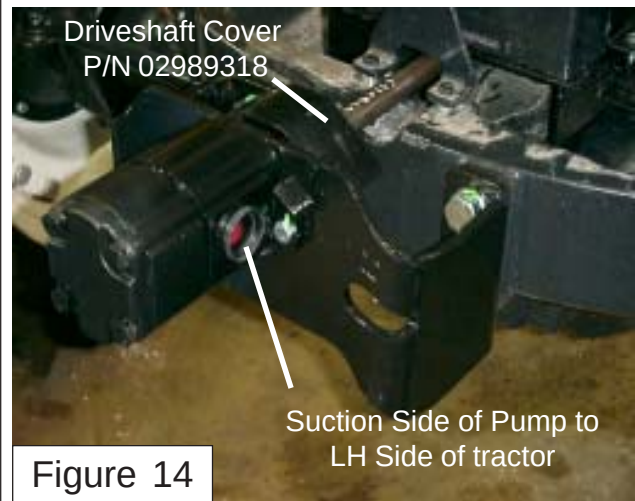

Figure 14
13. Install Pump Assembly. The pump assembly bolts to the machined pump mount. First coat the spline shaft of the pump with a anti-seize compound. Slide the pumps splined shaft into the spline coupler. The pump is retained with two bolts, P/N 00023100 (3/8" X 1-1/2"), two Locknuts P/N 00015800 (3/8") and 2 Lockwashers P/N 00012101 (3/8") (See Figure 14). These same bolts & nuts also mount the driveshaft cover (P/N 02989318) (See Figure 14). NOTE: Pump will always be installed with the Suction Port to the LH (Driver Side) of the tractor as shown (See Figure 14). Make certain that the setscrew in the keyed coupler end has the setscrew installed using thread lock (Loctite) and setscrew is tightened
15. Hood Modification. The hood will have to be modified for clearance of the drive shaft (See Figure 14 & 19). This modification is done with a Knife and a die grinder. Cut rubber hood seal with a knife, the amount to cut out can be shown by lowering the hood until the rubber touches the driveshaft. Using a marker pen mark the rubber wide enough that the driveshaft will clear the rubber on each side. Remove the rubber by cutting it with a knife.